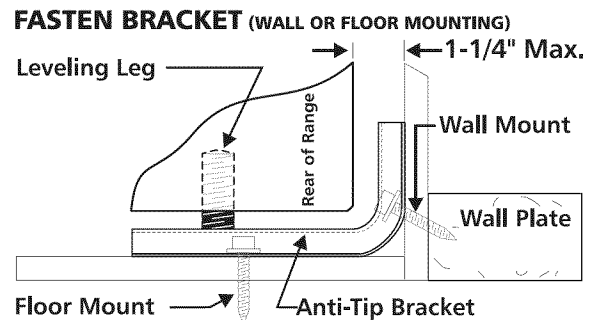
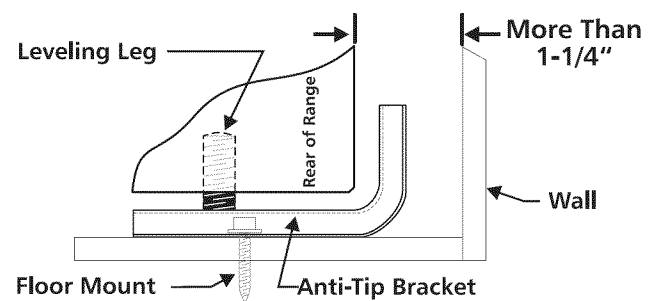
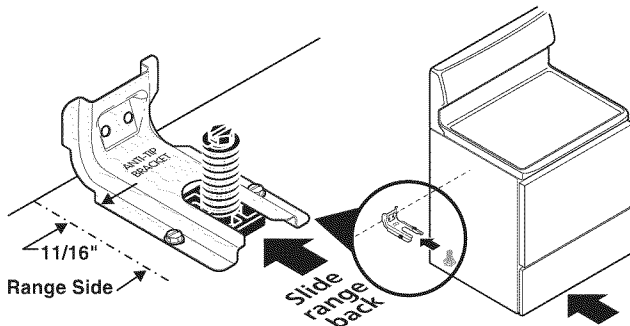

Fig 19
Fig 20
Fig 22
1. **Place the Bracket Using the Template** - Bracket may be positioned on either the left or right side of the range. Refer to Fig. 19, Fig. 20, and Fig. 22 to position the bracket if template is not available.
- If rear of range is against wall or no further than 1-1/4" from wall when installed, you may use the wall or floor mount method (Fig 19).
- For wall mount (Fig. 19), locate the bracket by placing the back edge of the template against rear wall and the side edge of template on the mark made referencing the side of the range. Place bracket on top of template and mark location of the screw holes in wall. If rear of range is further than 1-1/4" from wall when installed, attach bracket to the floor.
- For floor mount (Fig. 20), locate the bracket by placing back edge of the template where the rear of the range will be located. Mark the location of the screw holes shown in template.
- If molding is installed and does not allow the bracket to fit flush against wall, remove molding or mount bracket to floor (Fig. 20).
4. **Level & Position Range** - Level range by adjusting the (4) leveling legs with a wrench. Note: A minimum clearance of 1/8" is required between bottom of range and leveling legs to allow room for bracket. Slide range back into position (Fig. 22). Remove lower panel or storage drawer to visually check that rear leveling leg is inserted into and fully secured by the bracket. For models with a warmer drawer or broiler compartment, grasp the top rear edge of the range and carefully attempt to tilt it forward.